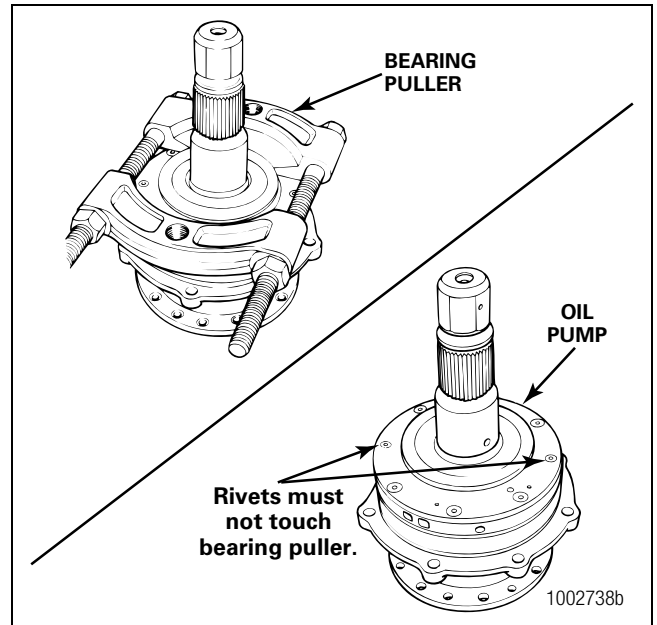

Figure 3.33
- A. Place a bearing puller under the oil pump. The rivets on the back of the pump must not touch the bearing puller. The bearing puller provides a level surface so that the shaft can be pressed straight out of the assembly. Figure 3.33.